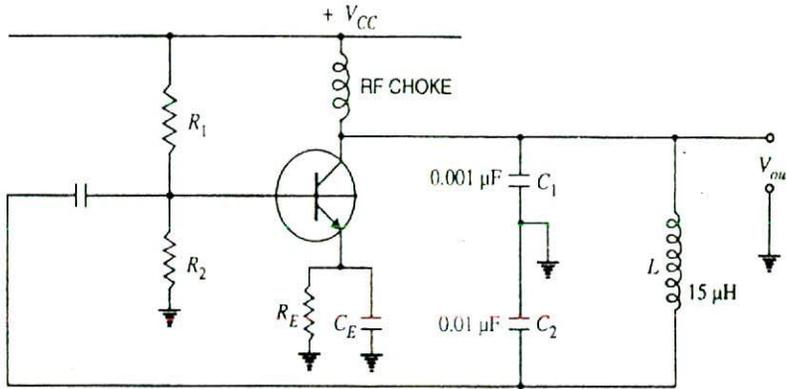

Fig. 16.12
**Example 16.2.** Determine the (i) operating frequency and (ii) feedback fraction for Colpitt's oscillator shown in Fig. 16.12.